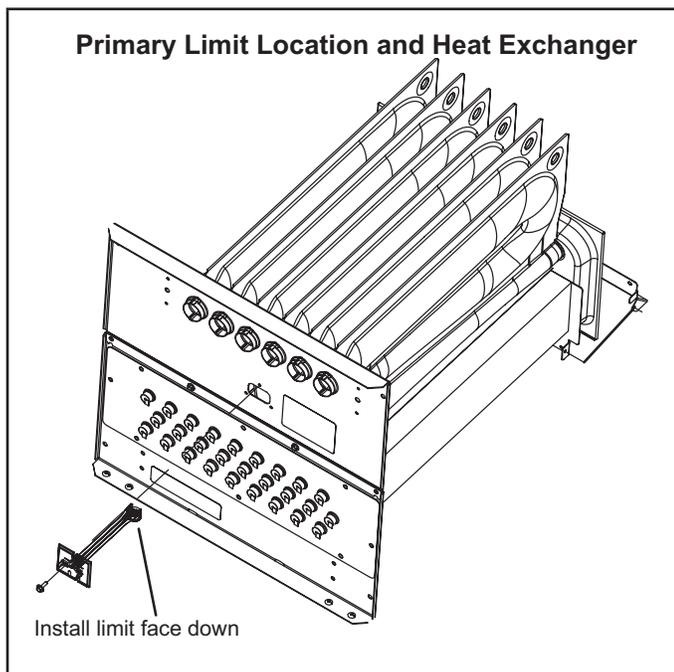

FIGURE 8
2. Heat Exchanger (FIGURE 8)
3. Primary Limit Control (FIGURE 8)
5. Flame Sensor (FIGURE 8)